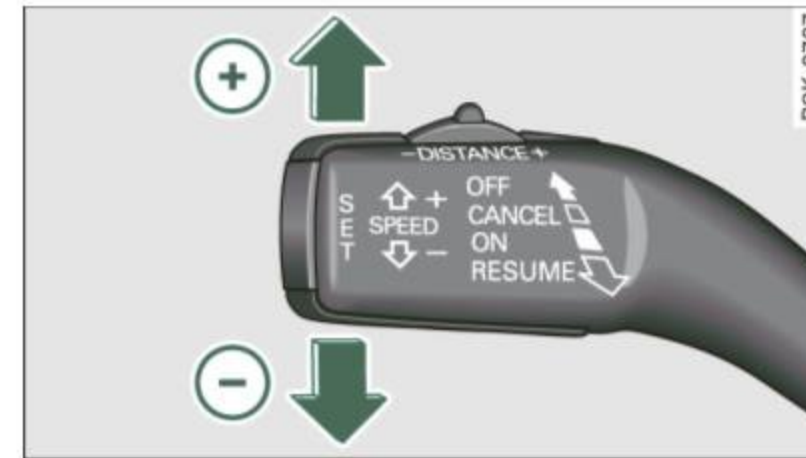

Fig. 116 Control lever: Changing speed
- Press the lever **briefly** upwards **+** ⇒ fig. 116. USA models: the speed increases by about 2.5 mph. Canada models: speed will increase by one mark on the speedometer scale.